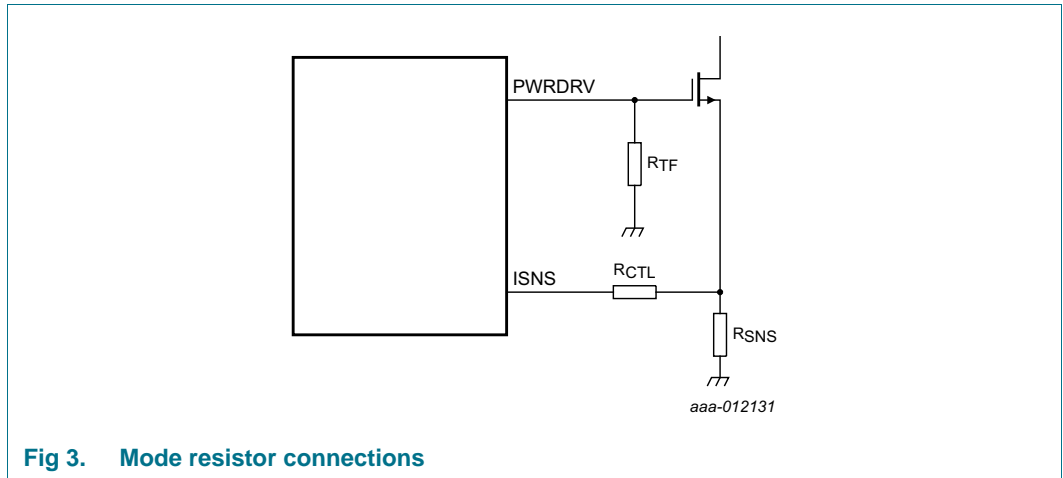

Fig 3. Mode resistor connections
The ISNS pin senses the voltage across the sense resistor,  $R_{\text{SNS}}$ , generated by the inductor current flowing through the external MOSFET and this resistor (see Figure 3).
The mode resistor at the PWRDRV ( $R_{\text{TF}}$ ) is connected to ground. The mode resistor at the ISNS pin ( $R_{\text{CTL}}$ ) is connected between the pin and the external MOSFET source (see Figure 3).
- $R_{SNS}$  is the sense resistor on pin ISNS (see Figure 3)